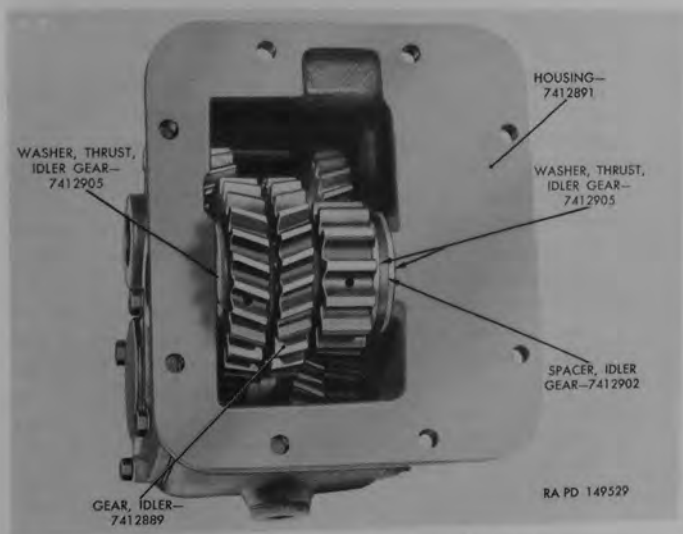

Figure 96. Power take-off idler gear installed.
a. Coat three idler gear thrust washers (E) and idler gear spacer (F) with universal gear lubricant (GO). Also apply same lubricant on bore of idler gear (K).
b. Set idler gear on work bench and assemble 30 idler gear roller bearings in each end of bore with bearing spacer (J) between sets of bearings. Use tool in same manner as described in paragraph 139b to hold bearings in place while assembling.
c. Start idler shaft (D) through boss at front side of housing (L) with end of shaft extending slightly beyond inside of case. Place one idler gear thrust washer (E) on end of idler shaft.
d. Lay idler gear on side and place one idler gear bearing thrust washer (G) against bearings at each end of idler gear. Place one thrust washer (E) and idler gear spacer (F) at front side of idler gear; then locate idler gear (fig. 96) and bearings in housing. Place idler gear rear thrust washer between gear and housing; then drive lightly on front end of idler shaft to push out assembly tool through rear of housing and force idler shaft into place in housing. Refer to figure 96 and check relative position of gear and thrust washers.